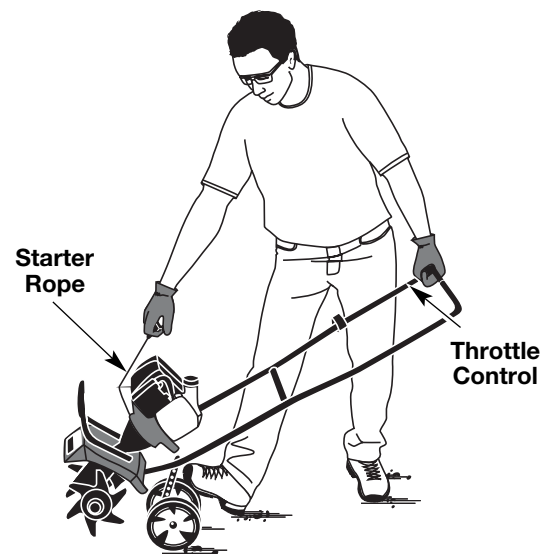

Fig. 12
6. Hold the throttle and handlebar with one hand and grab the starter rope with your other hand. Use your foot to hold down the cultivator (Fig. 12).